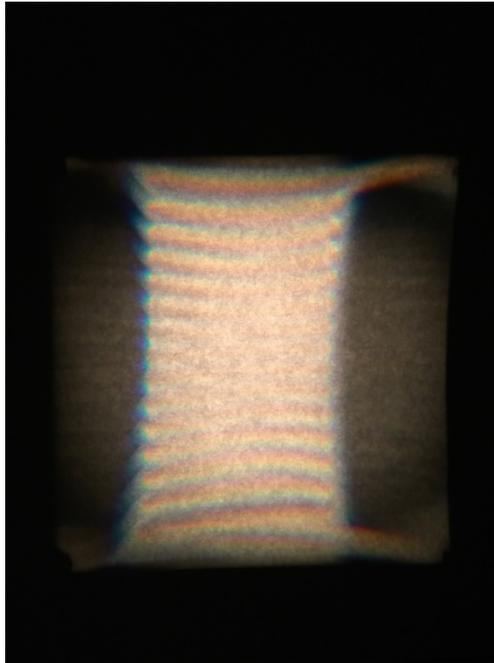

**Figure 64: Primary image of QTH lamp filament after adjusting condenser lens assembly**
7. Move the adjustment lever so that it rotates about the cylindrical condenser lens assembly until the filament of the QTH lamp can be clearly seen on the backdrop placed in front of the TLS. The final position of the Adjustment Lever should be at the position which outputs the sharpest filament image on the backdrop, which is usually closest to the lamp housing as possible. The spiral shape of the lamp filament should be visible on the backdrop, as shown in Figure 64. This image is referred to as the "primary image".